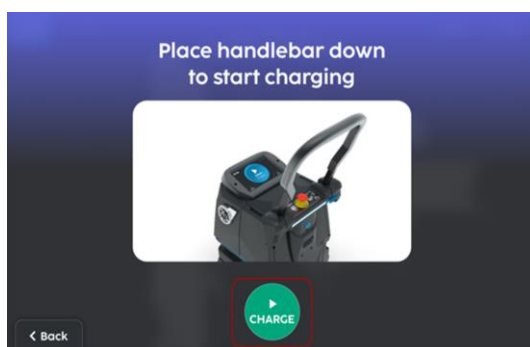

FIGURE 12-16
5. A loading screen is displayed followed by a prompt to place handle bar down (Fig. 12-16).